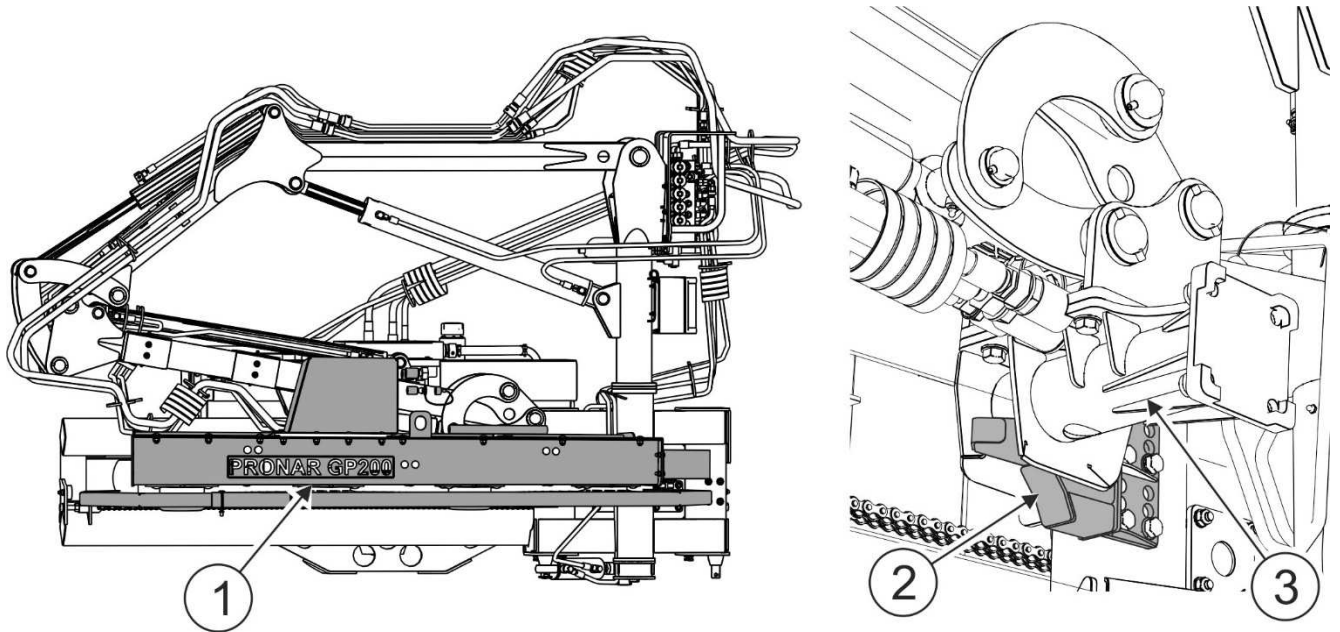
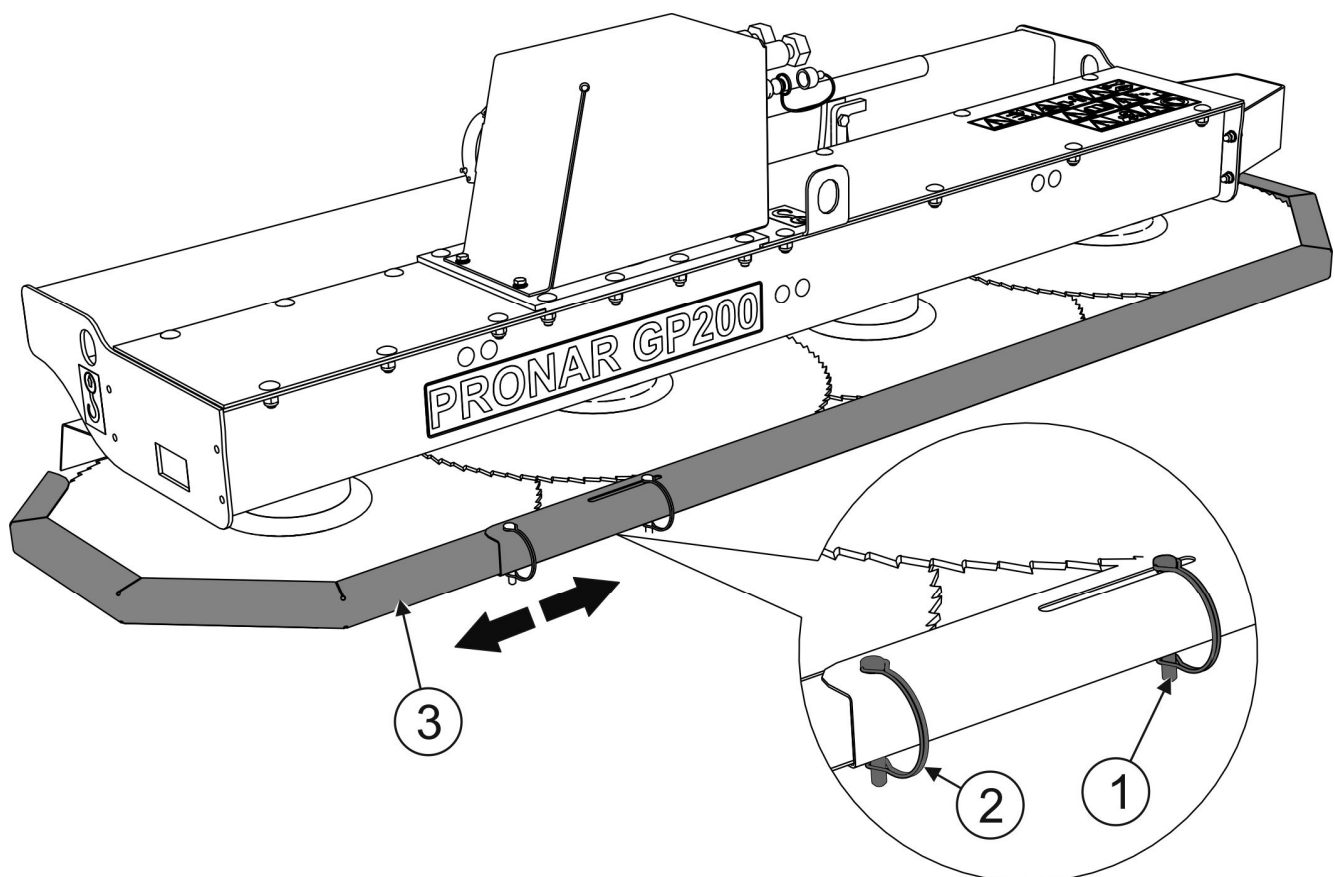

FIGURE 4.3 Transport position
FIGURE 5.1 Disassembling the guards of the circular saw blades.
For transport to place of work and back, raise the branch cutting saw (1) and mount it on hitch (2) of multifunction arm head (3) (FIGURE 4.3). Protect the circular saw blades with protective guard (FIGURE 5.1).
- remove the transport protective guard of the branch cutting saw (FIGURE 5.1)
Method of disassembly of the guards of the circular saw blades is shown in FIGURE 5.1.